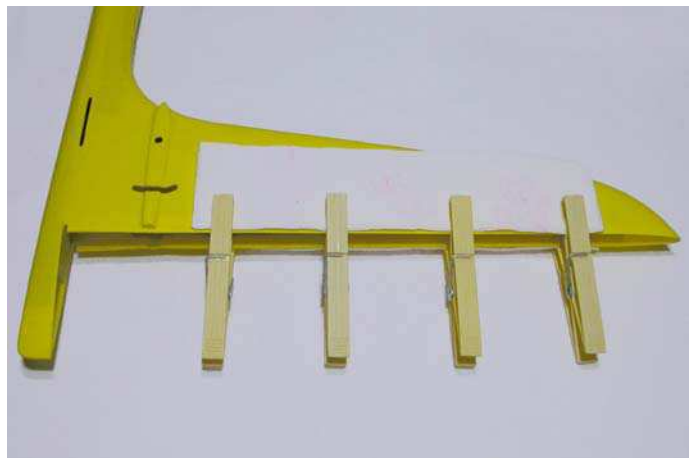

Fig.34: Hold the reinforcement.
- protecting the fin with some paper, hold the reinforcement with some clothes-pegs (see figure 34);